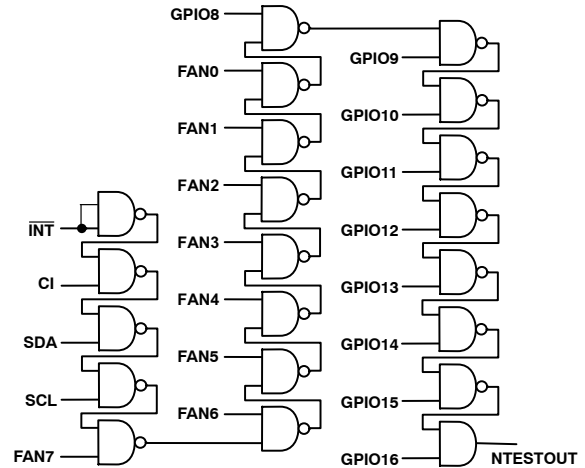

Figure 55. NAND Tree
A NAND tree is provided in the ADM1026 for automated test equipment (ATE) board-level connectivity testing. This allows the functionality of all digital inputs to be tested in a simple manner and any pins that are nonfunctional or shorted together to be identified. The structure of the NAND tree is shown in Figure 55. The device is placed into NAND tree test mode by powering up with Pin 25 held high. This pin is sampled automatically after powerup, and if it is connected high, then the NAND test mode is invoked.
- If any of the inputs shown in Figure 55 are unused, they should not be connected direct to ground, but via a resistor such as 10 k Ω . This allows the automatic test equipment (ATE) to drive every input high so that the NAND tree test can be properly carried out.